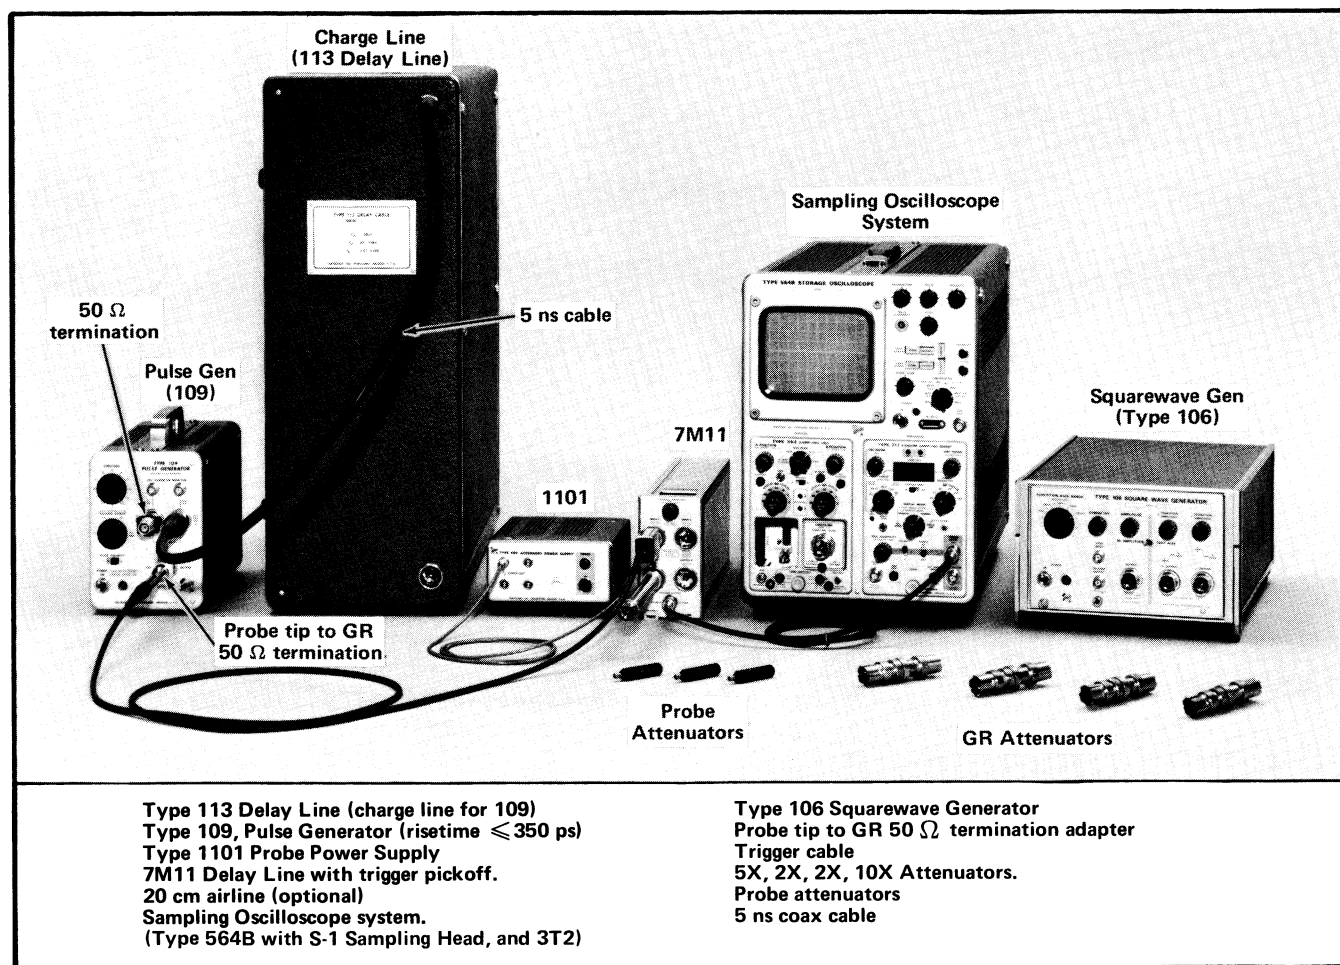

Fig. 5-11. Equipment required for basic operational check and calibration.
a. Connect the P6051 Probe power connector to a power source such as the Type 1101, 7000 series mainframe, or (by means of adapter 012-0187-00) to accessory power supply 015-0073-00 or the Type 454 probe power connector. See Fig. 5-11.
- a. Equipment setup is shown in Fig. 5-11.